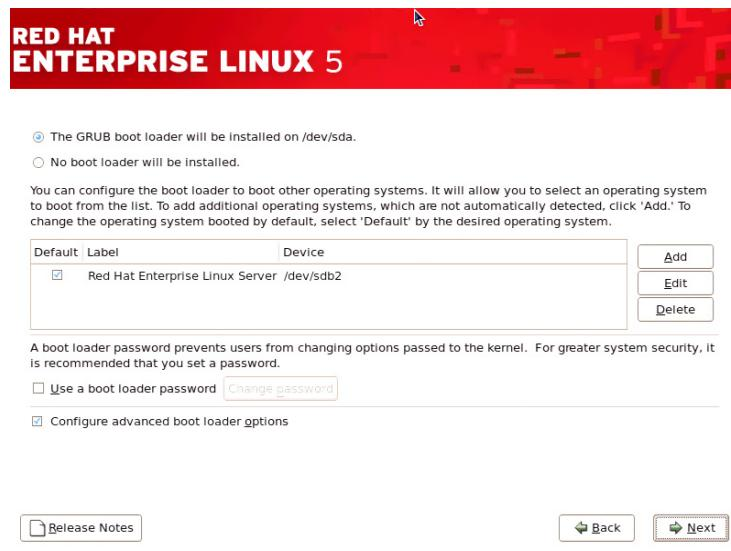

Figure 8-17. Select Advanced Boot Loader Options RHEL 5 Install
1. During the RHEL 5 install process, select **Configure advance boot loader options** on the Boot Loader Configuration screen, and then click **Next** (Figure 8-17).